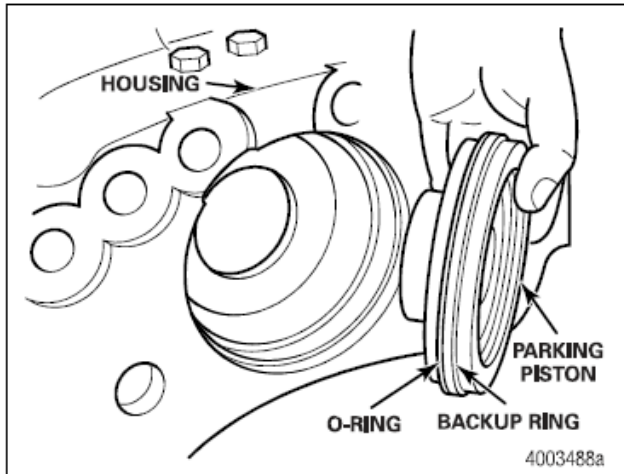

Figure 5.7
17. Install the two parking pistons into the parking piston bore of each caliper housing until fully seated. The smaller diameter portion of each parking piston is inserted into the caliper housing bore first, toward the inside of the caliper housing. Figure 5.7.